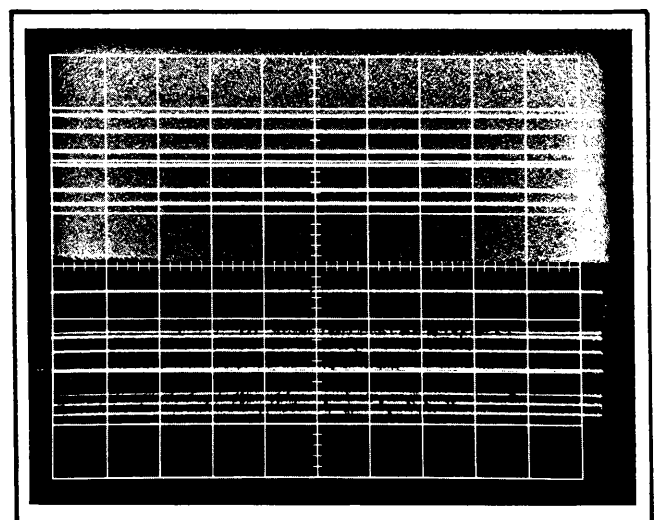

Fig. 5-25. Typical CRT display showing Upper Writing Limit on upper screen and Writing Threshold on lower screen.
- 2. Carefully check the written lines for breaks or gaps of 0.025 inches or more. If no breaks or gaps are evident after 10 seconds (see Fig. 5-25), note the voltmeter reading, then adjust the Op Level control to reduce the operating level by 5 volts.
- up. See Fig. 5-25. If no trace spreading or background fade-up is evident after 10 seconds, adjust the Op Level control to increase the operating level by 5 volts.